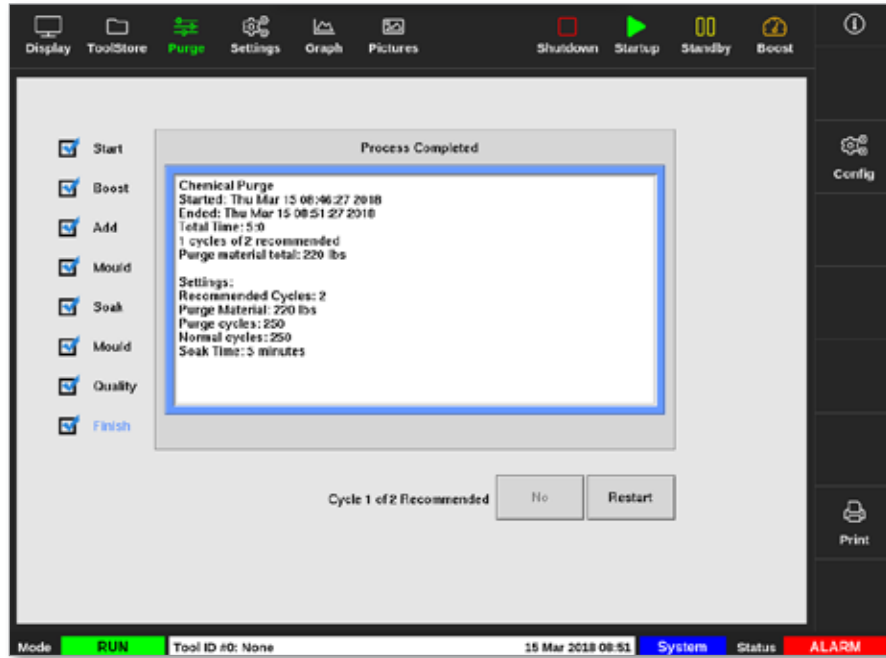

Figure 6-9 Chemical purge summary screen
8. Finish: the system displays a summary screen. See Figure 6-9.